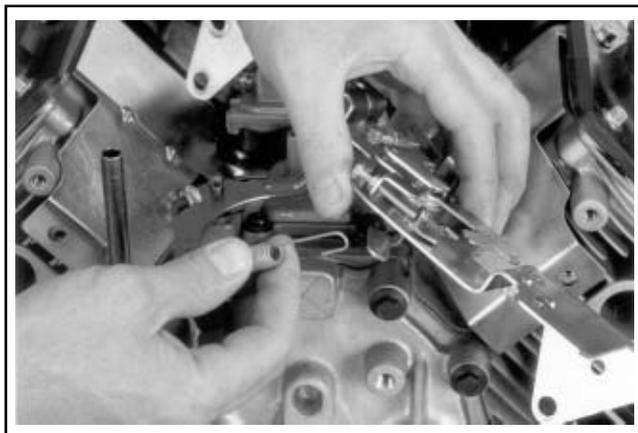

Figure 9-20. Disconnecting Spring from Bracket.
2. Mark the spring hole locations and disconnect the spring from the governor lever. See Figure 9-20.